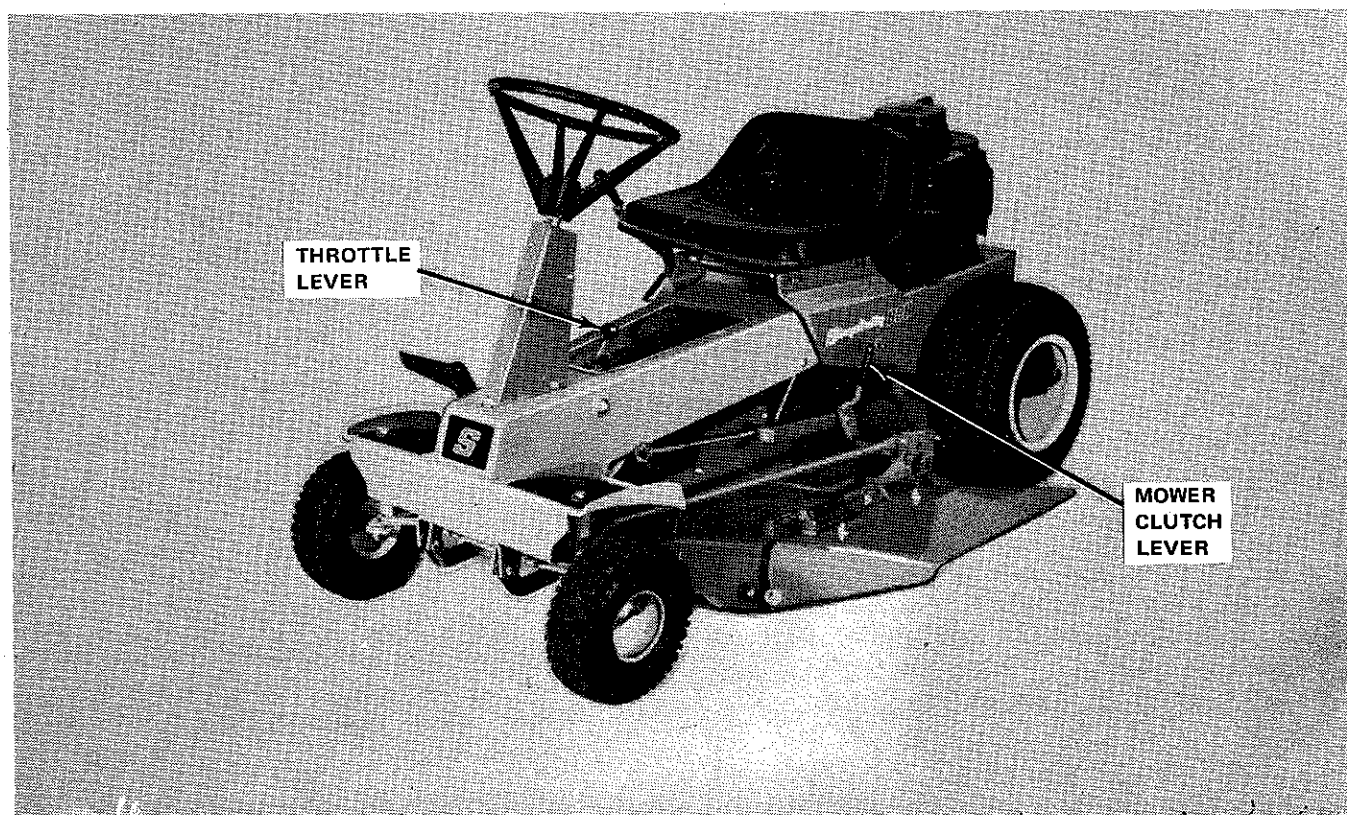

Figure 3-3. Left Side Operation Controls
2. Throttle Lever (Figure 3-3). Move lever FORWARD to increase speed and toward REAR to slow speed or stop engine. Mowing should be done at 3/4 to full throttle.
6. Mower Clutch Lever (Figure 3-3). When mower is engaged the clutch lever is forward and down. Engine should be running 3/4 to full speed when the mower drive is engaged. Mower clutch lever must be disengaged before starting engine.